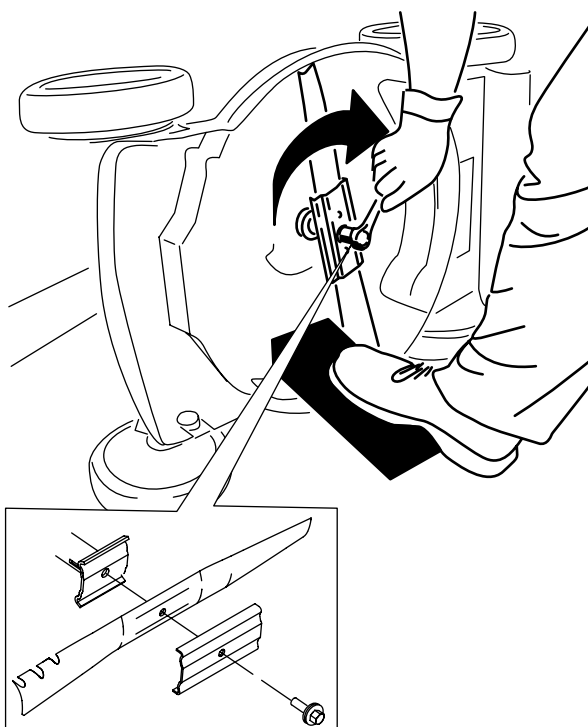

Figure 25
4. Install the new blade and all mounting hardware (Figure 25).